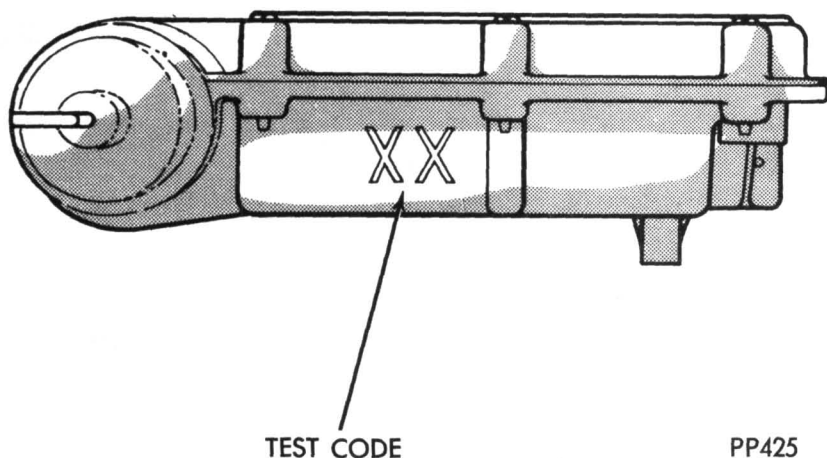

Fig. 2—Spark control computer test code (typical)
on the side of the SCC (Fig. 2). The test code is the last two digits of the SCC part number. A selected test code allows the Analyzer to select the correct program for the vehicle being tested. The test begins when the START button is depressed. The Analyzer automatically performs a pre-set sequence of tests by receiving signals from the sensors and determines if they are operating properly. When an instruction code is displayed during the course of the tests, the mechanic is required to perform the function as defined on the front panel.
- (2) Depress the POWER switch.
- (3) Set SELECT TEST CODE switches to test code stamped on side of SCC (Fig. 2).
- (4) Refer to CARB/COOLANT LAMP indications.
- (5) Depress the START switch.